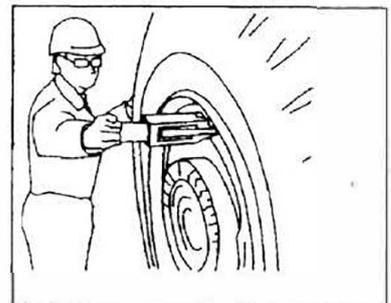

Figure 3
4. Stand to one side of the bead breaker. Hold the bead breaker with one hand. (See Fig. 3.)